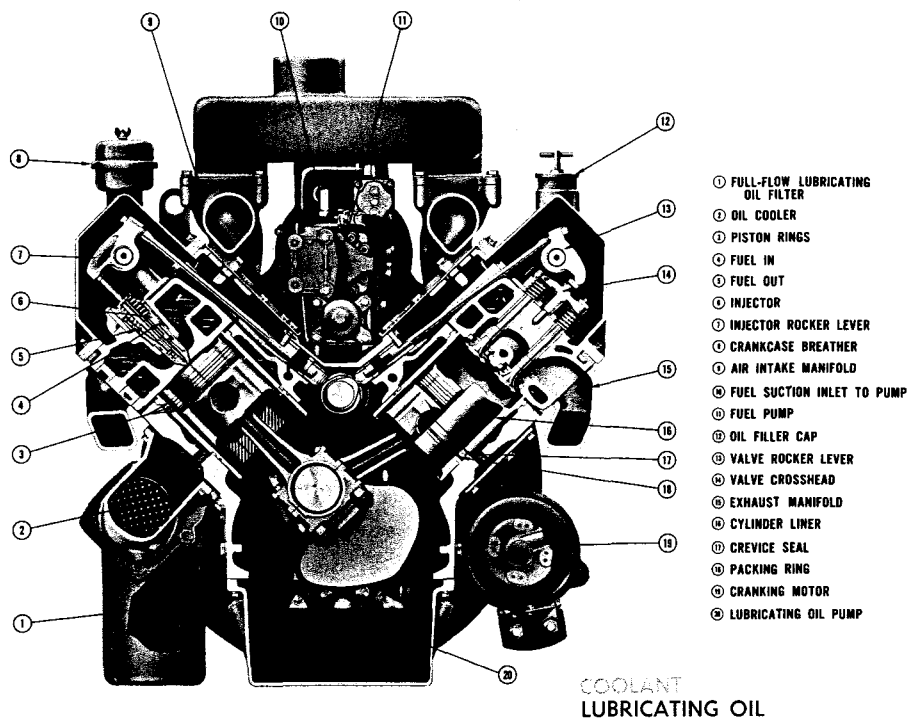

Fig. 5-17, (LWC-4). Lubricating oil and coolant flow — V-378, V-504 and V-555
1. Oil flows from filter to right bank oil drilling at rear of engine to accessory drive gear, rear cam bushing and rear main bearing which in turn supplies the two rear connecting rods. Fig. 5-17.